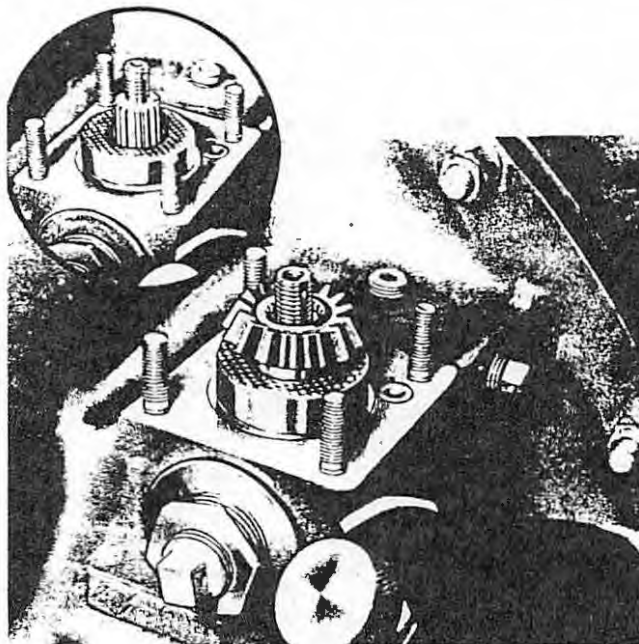

Figure 5-67. Assembly Liner and Drive Installed
a. To install the governor, remove the mounting cover from the mounting pad on which the unit is to be installed. Make certain that the engine shipping gasket included between this cover and the mounting boss is removed, since its use for installation of the control would result in malfunctioning of the unit. The mounting pad must be free from irregularities. The assembly liner should be put into position over the gun synchronizer drive ball bearing. See figure 5-67. Then the bevel gear should be installed.